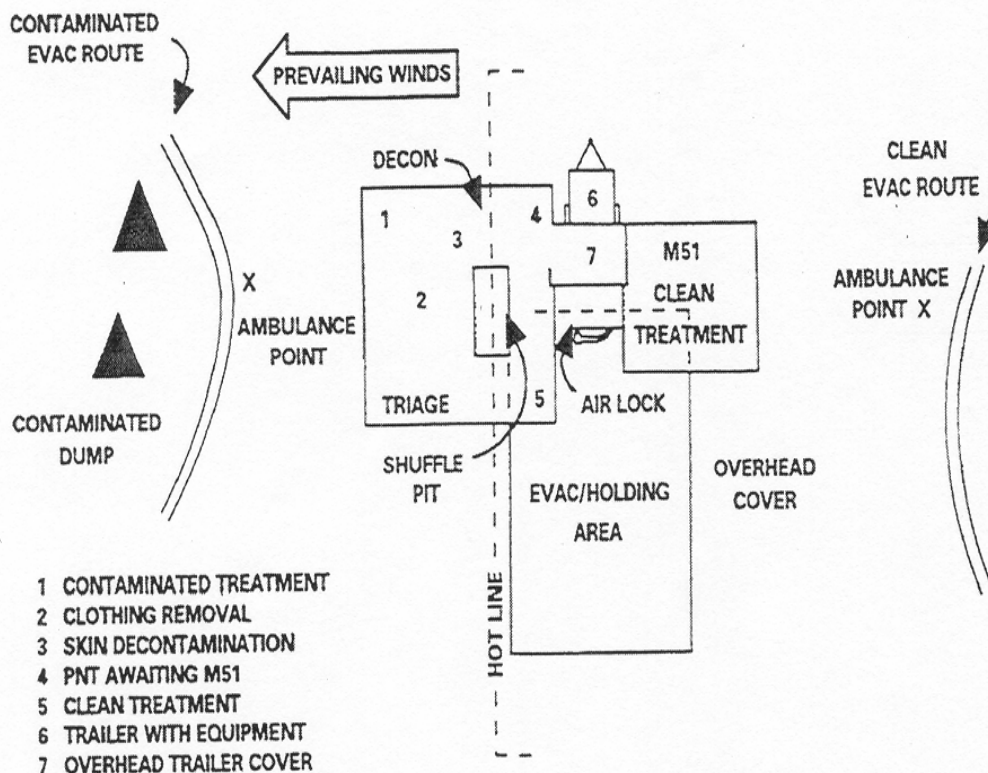

Figure 1-3. Battalion aid station using M51 shelter system.
a. Set up the protective shelter on the upwind side of the clean waiting and treatment area (see Figure 1-3).